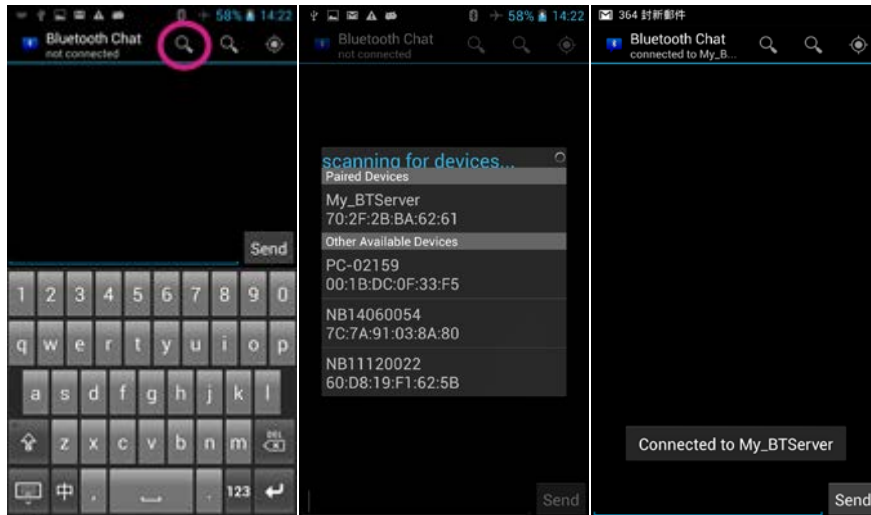

Figure 25 Connecting to the LinkIt ONE Bluetooth server
- 1 The example app tap the left-most find button in the menu, as shown in Figure 25. This will list all the discoverable Bluetooth devices and should including one named **My_BTServer** the Bluetooth server name set up on your LinkIt ONE.